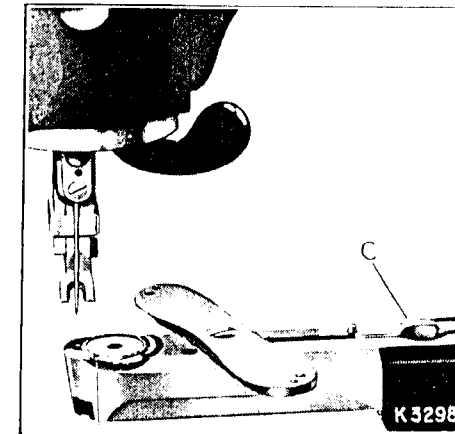

Fig. 11
After threading the shuttle, turn the balance wheel until the upright part of the shuttle carrier is to the right. Then, with the point of the shuttle nearest you, and pointing towards the right, drop it and the bobbin into the recess provided for them, as shown in Fig. 11. Raise the needle bar to its highest point, press the lever (C), and turn back the needle plate to its sewing position.